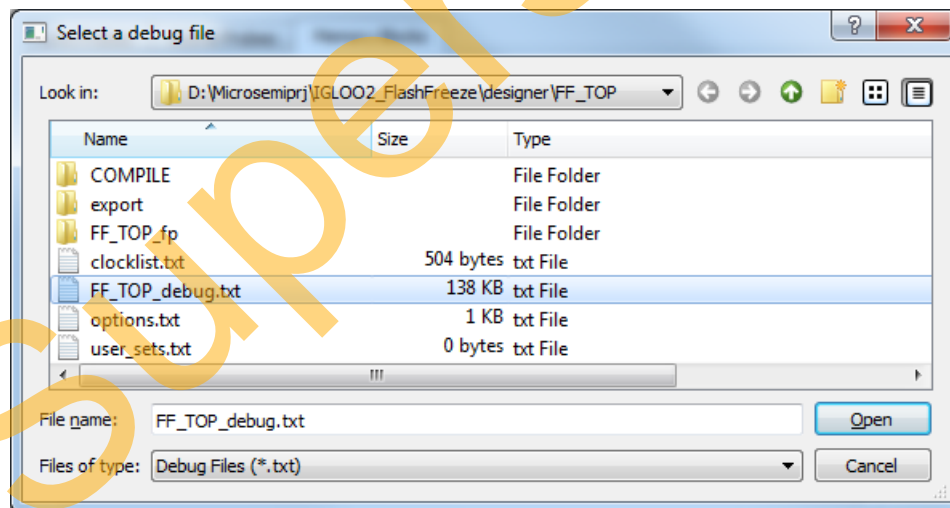

Figure 12 • Selecting the Debug File
- a. Point to the debug file. The debug file is automatically generated into the Libero SoC project. Click **Browse** and navigate to **<Libero SoC project path>/designer/<top level design name>/<design_name>_debug.txt** as shown in Figure 12 and click **Open**.